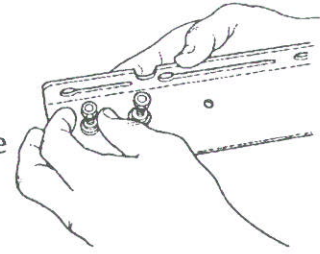

Fig.6
5. Install the long extension (5) by fitting two screws (7), flat washers (8), lock washers (9) and nuts (10) in the extension, as in Fig.6, then lower the screws into the two slots in the far side of the casting (1). The washers (8 and 9) go on the side of the nuts (10). Finger tighten. The top edge of each extension should be pointed toward the casting. Make sure that the bottom edges of both extensions are flat on the table surface.